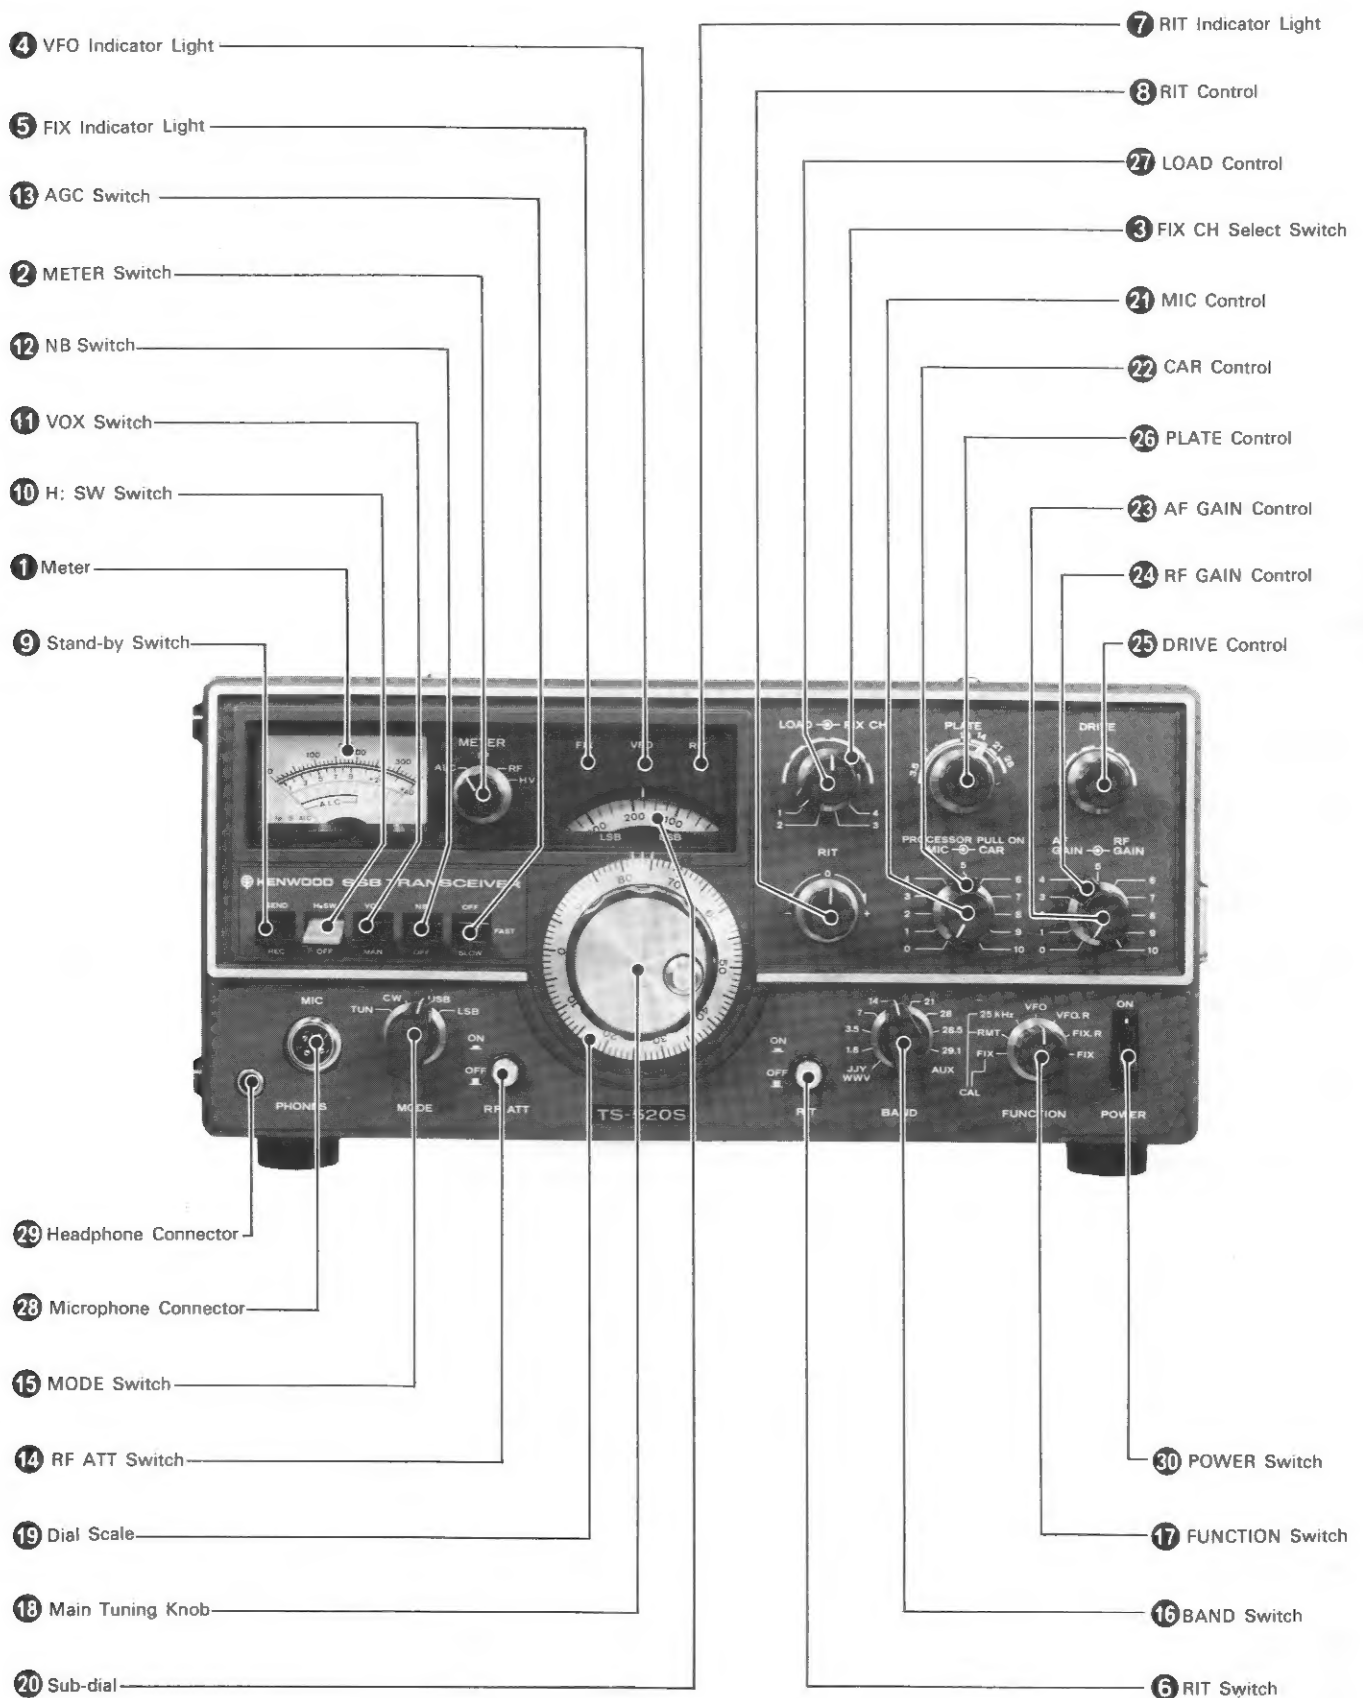

Fig. 5 Front Panel Controls
3.1 FRONT PANEL CONTROLS (See Figure 5)
■ METER (1 on Figure 5)
■ METER SWITCH (2 on Figure 5)
■ CH. (FIXED CHANNEL) SELECT SWITCH (3 on Figure 5)
■ VFO INDICATOR LIGHT (4 on Figure 5)
■ FIX (FIXED CHANNEL OPERATION) INDICATOR LIGHT (5 on Figure 5)
■ RIT SWITCH (6 on Figure 5)
■ RIT INDICATOR (7 on Figure 5)
■ RIT CONTROL (8 on Figure 5)
■ STAND-BY SWITCH (9 on Figure 5)
■ H. SW (Heater) SWITCH (10 on Figure 5)
■ VOX SWITCH (11 on Figure 5)
■ NB SWITCH (12 on Figure 5)
■ AGC SWITCH (13 on Figure 5)
■ RF ATT SWITCH (14 on Figure 5)
■ MODE SWITCH (15 on Figure 5)
■ BAND SWITCH (16 on Figure 5)
■ FUNCTION SWITCH (17 on Figure 5)
■ MAIN TUNING KNOB (18 on Figure 5)
■ DIAL SCALE (19 on Figure 5)
■ SUB-DIAL (20 on Figure 5)
■ MIC CONTROL (PROCESSOR PULL ON) (21 on Figure 5)
■ CAR CONTROL (22 on Figure 5)
■ AF GAIN CONTROL (23 on Figure 5)
■ RF GAIN CONTROL (24 on Figure 5)
■ DRIVE CONTROL (25 on Figure 5)
■ PLATE CONTROL (26 on Figure 5)
■ LOAD CONTROL (27 on Figure 5)
■ MIC CONNECTOR (28 on Figure 5)
■ PHONES JACK (29 on Figure 5)